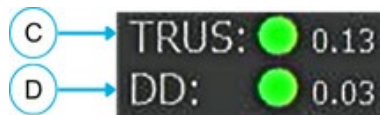

Figure 12-4: Physician User Interface - NGS Sensor Error Values
5. Verify the TRUS (C) and DD (D) NGS Sensor error values on the PUI are less than 0.20 (ideally <0.10), and the indicator lights are green (**Figure 12-4**).